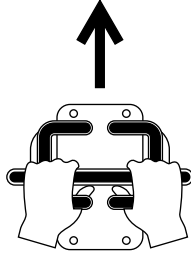

Figure 10
- To move forward, move both traction controls forward (Figure 10).